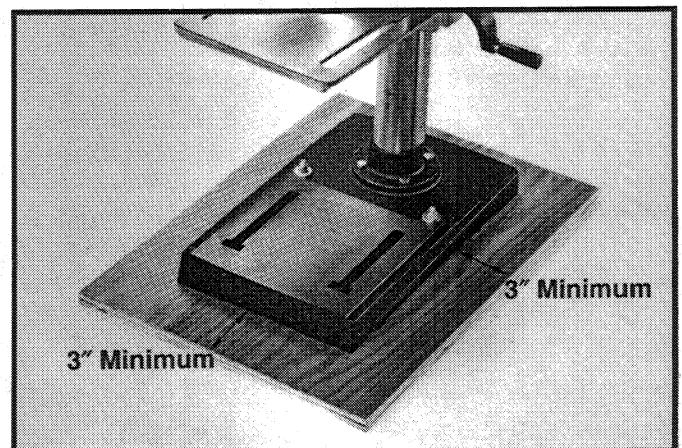

Fig. 19
3. When the drill press is mounted to the supporting board, the board must extend a minimum of 3" beyond each edge of the drill press base, as shown in Fig. 19.